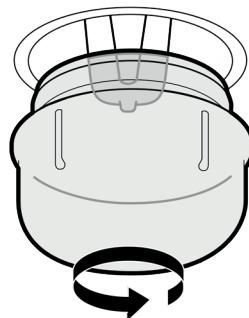

Fig.12
2. Unscrew the glass cover in the anti-clockwise direction according to Fig. 12 and replace the bulb with a bulb of the same type and parameters.